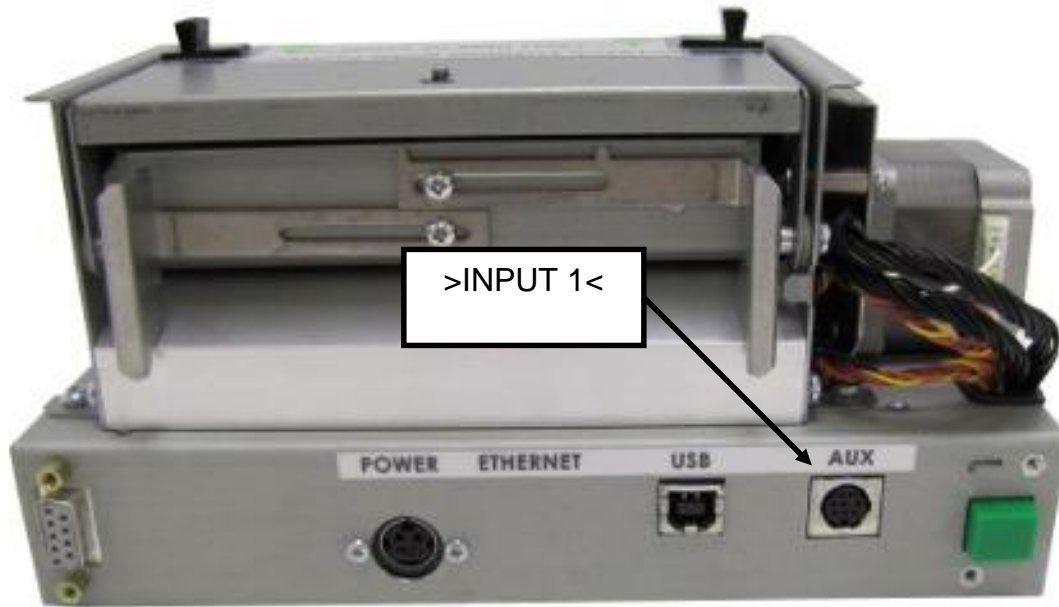

Figure 6 >INPUT 1< Sensor Connection
2. Insert the media into the media path (see Figure 6), located on the back of the printer, until you feel resistance.
6. Insert the media into the media path (Figure 6), located on the back of the printer, until you feel resistance.